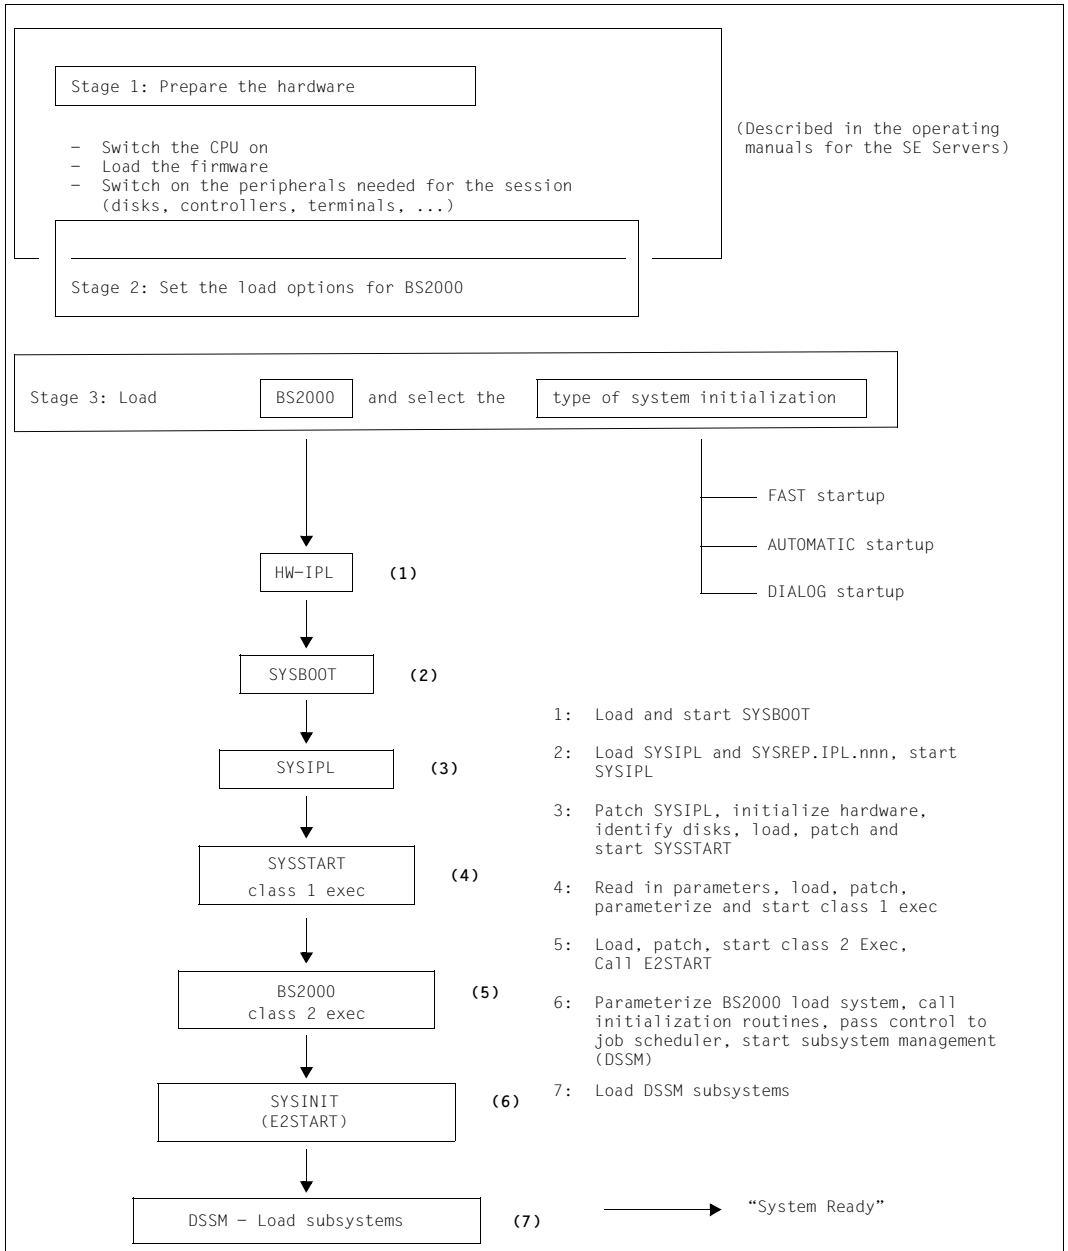

Figure 2: Flow chart of functions for BS2000 system initialization
Internally, system initialization for BS2000 begins with the loading of the initial program loader (SYSBOOT). This is actually performed by the HW-IPL routine (step (1) in figure 2).
SYSBOOT is the first program in system initialization. It performs elementary checks and initiates other load routines (step (2) in figure 2).
The routine loaded and started by SYSBOOT is SYSIPL, which queries the options in DIALOG mode and determines the current disk and processor configuration (step (3) in figure 2). The time base for the system time is defined. The disk configuration is checked to ensure that it is complete and unique. With DRV disks in the home pubset, the associated disk pairs are established. In addition, this routine loads and corrects SYSSTART or SLED.
SYSSTART (step (4) in figure 2) is a program that prepares and carries out system initialization proper for BS2000. The preparation stage mainly involves reading in the parameters for BS2000, determining the object code corrections for the class 1 Executive and checking the SYSSTART and BS2000 versions for consistency. During execution, the individual BS2000 initialization functions are called via tables. These initialization functions also include the virtual memory management data structures and the initialization of the paging areas used by SYSSTART to prepare the transition to BS2000 virtual addressing mode.
Finally, SYSSTART calls the BS2000 load system (step (5) in figure 2), which consists of the two parts “class 1 Executive” (resident) and “class 2 Executive” (pageable). At this stage of system initialization, a device management application is made for access rights to system initialization devices (disks of the home pubset and paging pubsets). Once this phase of system initialization is complete, the BS2000 load system has been **loaded**, **patched** and **parameterized**.
The final phase of BS2000 system initialization is started using E2START (step (6) in figure 2). This routine is already executing under BS2000 and first determines the name of the command file (CMDFILE) to be started automatically after “System ready”.